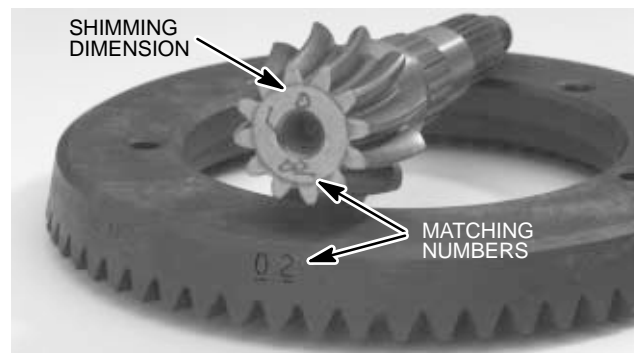

Figure 43
The ring gear (32) and pinion gear (8) are supplied as a matched set. Both gears are etched for verification with matching numbers. If a new gear set is being used, verify that the matching numbers are the same on both the ring and pinion gear before assembling the front differential (Fig. 43).
On the end of each pinion gear, there is an etched number indicated by plus (+), minus (–), or zero (0). This number indicates a shimming dimension for the best running position of the gear set. This dimension is controlled by shimming between the bearing cup (10) and the carrier assembly (15) (Fig. 43).
D. Note shimming dimension on the pinion gear (Fig. 43). If the dimension is (+) positive, add the dimension to 3.750 inch. If the dimension is (–) negative, subtract the dimension from 3.750 inch.
**IMPORTANT:** The pinion gear (8) and ring gear (32) are supplied only as a matched set. Matching numbers on both gears are etched for verification. When using a new gear set, make sure the matching numbers are verified before using (Fig. 43).